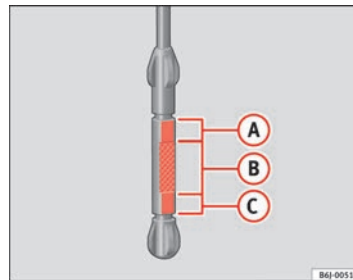

Fig. 114 Engine oil dipstick
- Then pull it out once more and check the oil level ⇒ page 180, fig. 114. Top up with engine oil if necessary.